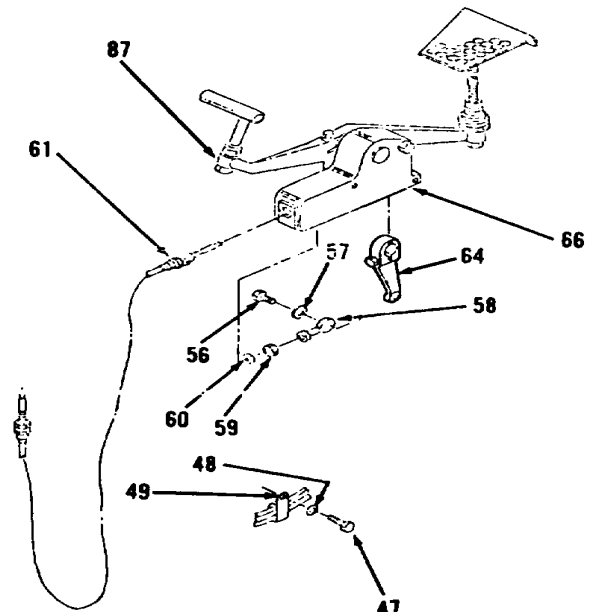

Figure 3-160.
34. Install three washers (64) and bolts (63).
35. Install bolt (62).
36. Position cable (61) through housing (66, Figure 3-160).
37. Install two nuts (60).
38. Install nut (59) and rod end (58) loosely.
39. Aline lever (64) and rod end (58).
40. Install washer (57) and bolt (56).
41. Install clip (49), washer (48) and bolt (47), securing cable (61) along with surrounding hose and clip assembly to right side of frame.